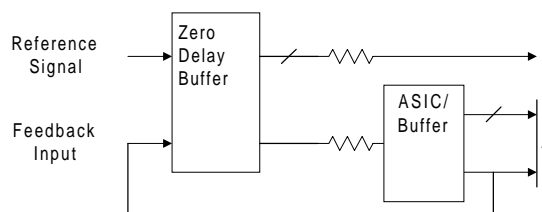

Figure 2. 6 Output Buffer in the Feedback Path
Referring to *Figure 2*, if the traces between the ASIC/Buffer and the destination of the clock signal(s) (A) are equal in length to the trace between the buffer and the FBIN pin, the signals at the destination(s) device will be driven HIGH at the same time the Reference clock provided to the ZDB goes HIGH. Synchronizing the other outputs of the ZDB to the outputs from the ASIC/Buffer is more complex however, as any propagation delay from the ZDB output to the ASIC/Buffer output must be accounted for.